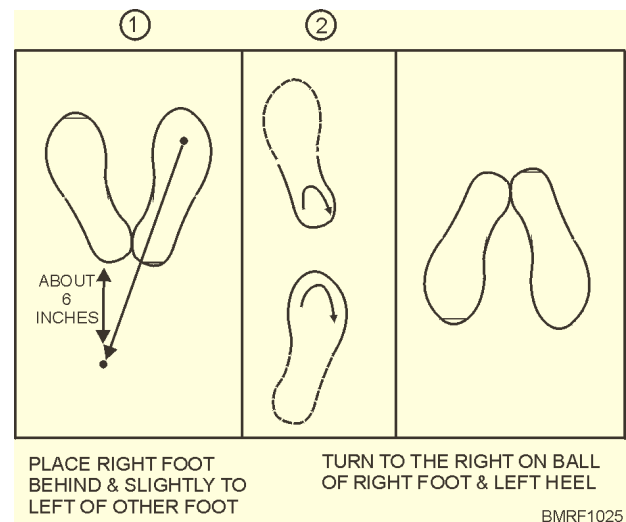

Figure 10-25.—About Face.
**ABOUT FACE.** About face is a two-count movement performed on the commands **About FACE**. On the command **About**, shift your weight to your left leg without noticeable movement. On the command FACE, (1) place your right toe about 6 inches behind and slightly to the left of your left heel (fig. 10-25; (2) on the ball of the right foot and the heel of the left foot, turn smartly to the right until you are facing the rear. Your feet will be in the position of attention when the turn is